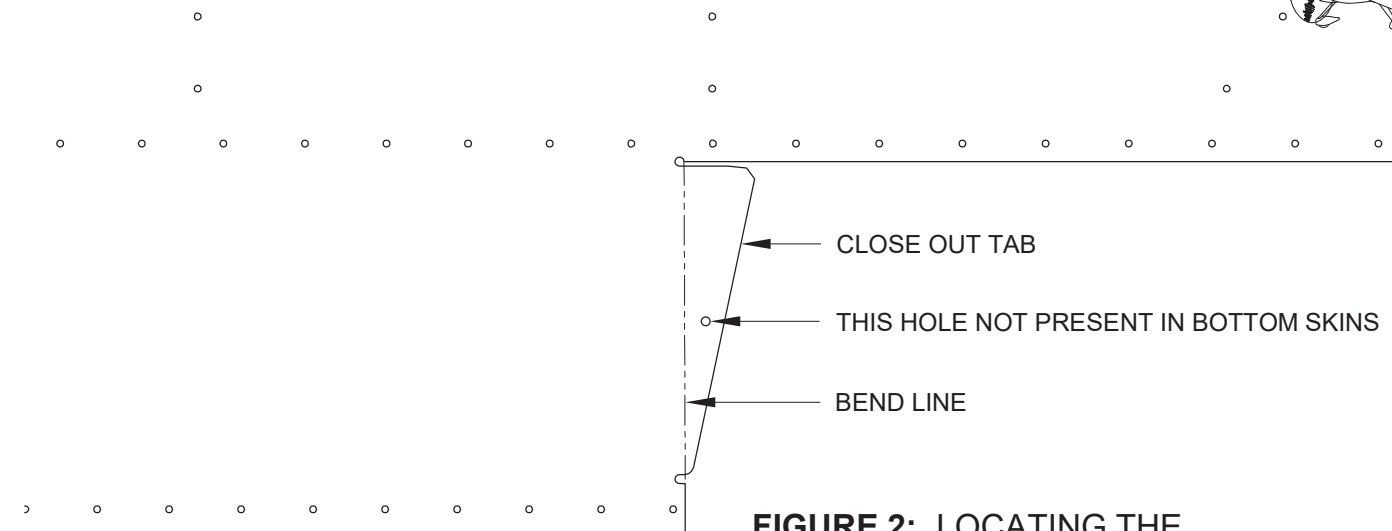

FIGURE 2: LOCATING THE BEND LINE
Step 1: Remove the vinyl from the skins in the area of the tab. Mark the bend line on the skins as shown in Figure 2.